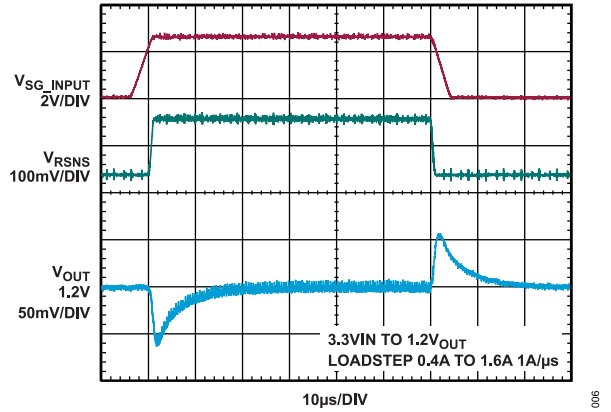

Figure 9. Load Transient Response Forced Continuous Mode
- Measure the RSNS voltage to observe the current,  $V_{RSNS}/100$  m $\Omega$ . Adjust the amplitude of the pulse to provide the required transient. Adjust the rising and falling edge of the pulse to provide the required ramp rate. For more details, see Figure 9 and the optional transient response circuit shown in Figure 6.